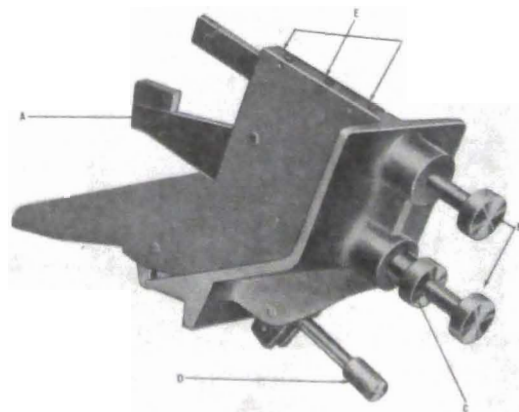

Figure 9—Steady Rest
507—STEADY REST (Figure 9)
The purpose of the steady rest is to hold the crankshaft steady and to eliminate whipping and vibration while grinding. The steady rest is clamped to the front table with lever (D, Fig. 9). If the lever fails to clamp the steady rest securely, adjust the screw underneath the lever block. To engage lower jaw (A), push knob (C) fully in and turn to the right one-fourth turn. The screw knobs (B) are used to adjust the steady rest jaws.
The three screws (E, Fig. 9) on the 15A steady rest are used to adjust the upper jaw gib. This gib should be kept snug against the upper jaw so that excessive play is eliminated. The screw lock nuts are used to lock the screws in position after adjusting.